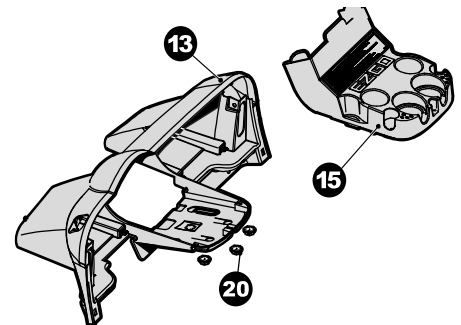

Figure 3
9. Remove the three self threading nuts (20) securing the cup holder assembly (15) to the instrument panel (13). See figure 3.
- 5. Mount the turn signal housing to steering column 1/4” from the bottom of the steering wheel using the clamps and screws from step 8. See figure 3. ****Note: Make sure the turn signal housing is not making contact with the steering hub as this will make it difficult to steer the vehicle.****